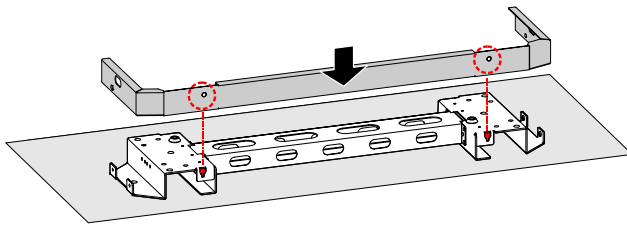
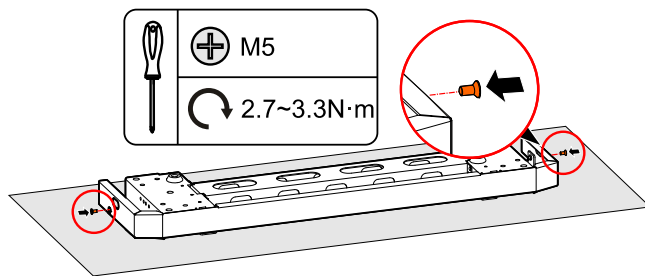

Figure 3-11 Install the cover plate
Figure 3-12 Fasten the cover plate
Step 6 Lead the cover plate into the base module and fix it with screws, as shown in Figure 3-11, Figure 3-12.